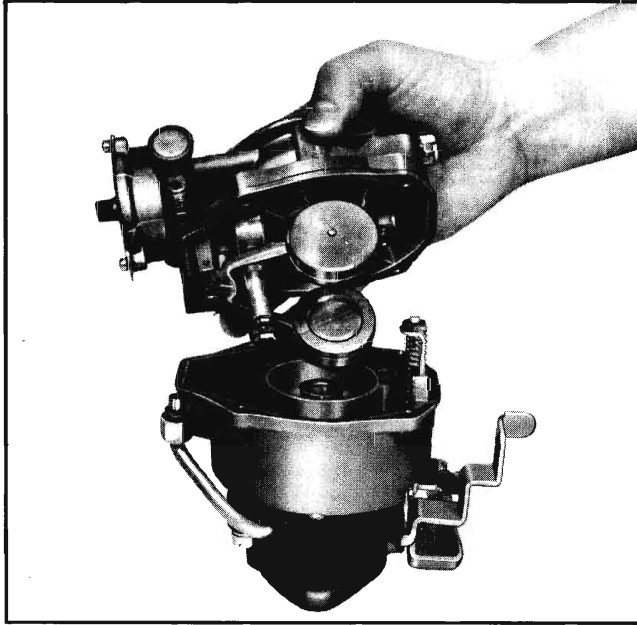

Fig. 6B-23 Removing Air Horn from Bowl
4. Remove float seat and gasket with $\frac{1}{2}$ " bit screwdriver (Fig. 6B-25).